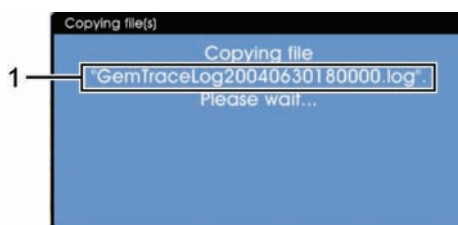

Figure 157: Confirmation dialog box with file size (1), OK button (2) and Cancel button (3)
6. A confirmation dialog box will now appear (see Figure 157). This box details the total size of the files selected for transfer. Make sure your remote device has sufficient capacity to store all the files then either:
8. A confirmation dialog box will now appear (see Figure 157). This box details the total size of the file ready for transfer. Make sure your remote device has sufficient capacity to store the file then either:
8. A confirmation dialog box will now appear (see Figure 157). This box details the total size of the files selected for transfer. Make sure your remote device has sufficient capacity to store all the files then either: